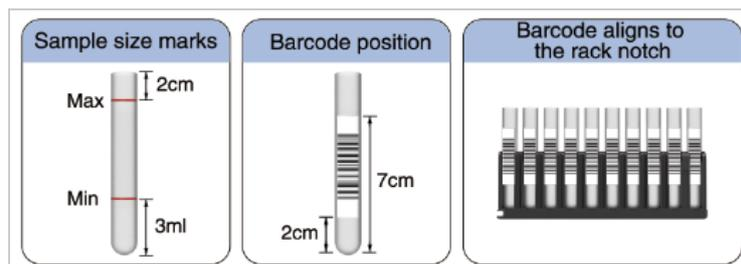

Figure 5-2
- If the barcode is to be scanned by the scanner built in the instrument, the bar code should be pasted 5mm below the tube mouth, (as shown in Figure 5-2), and the bar code should face to the instrument after it is pasted.